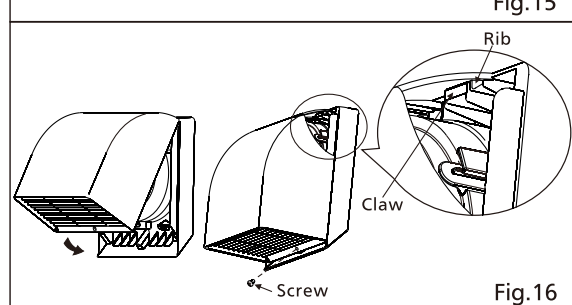

Fig.16
16. Install hood on hood base and secure it by using screw. (Fig. 16)